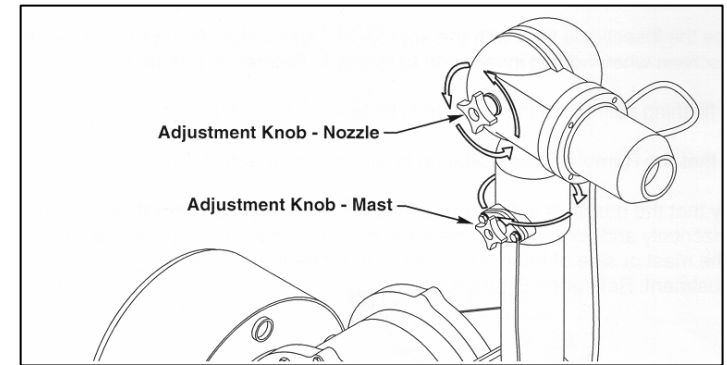

Fig. 60. Adjusting spray-head angle.
- 15. Verify that the nozzle is in the correct position for spraying (0° - 45 °F) (Fig. 60).